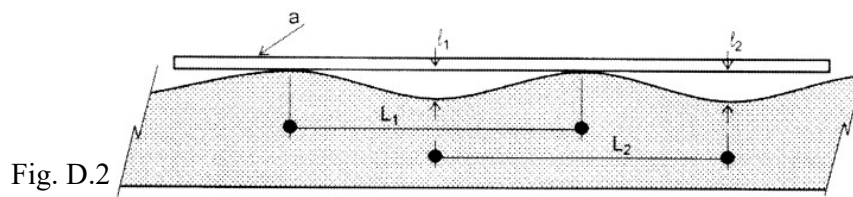

Fig. D.2
This measurement is only relevant in the case of panels with nominally flat or lightly profiled facings. Deviation from flatness (I) shall be defined as the distance between any point in the surface and the theoretical flat plane as shown in Figure D.2. Flatness shall be measured in both the longitudinal and transverse directions over a minimum distance of $L = 200 \text{ mm}$. The location of the measured distance L shall be at least 100 mm from the edge of the panel and 200 mm from the end of the panel. A straight metal bar shall be placed on the surface of the panel and the maximum gap between the bar and the panel measured with a precision gauge.